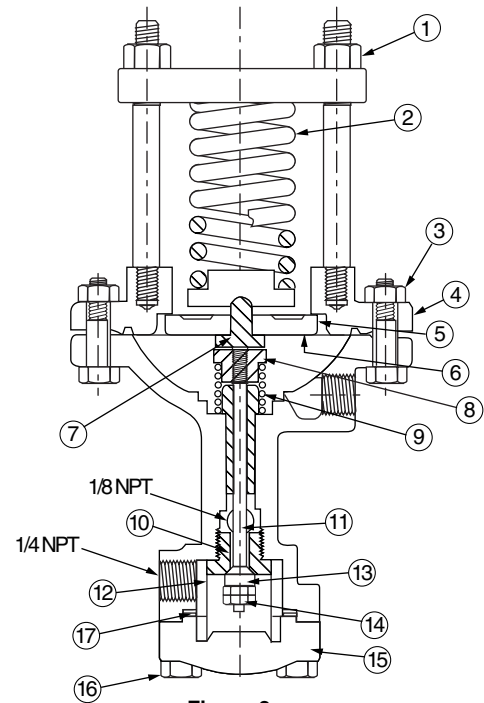

Figure 3
1. When replacing diaphragms, apply sealing compound (Copalite or equal) sparingly to the shoulder of the diaphragm screw (see item 7 in Fig. 3).